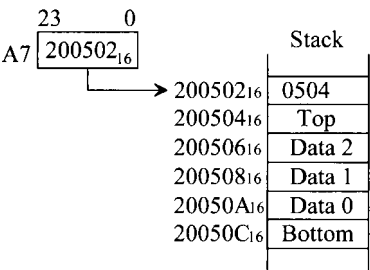
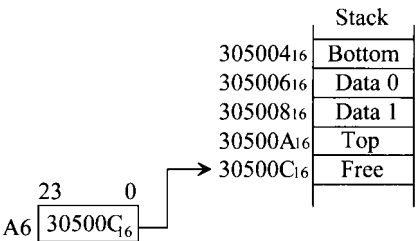
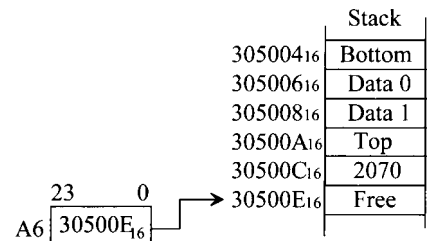

FIGURE 6.15 PUSH operation for the 68000 stack growing from HIGH to LOW memory.
FIGURE 6.16 68000 stack growing from LOW to HIGH memory.
FIGURE 6.17 PUSH operation for the 68000 stack growing from HIGH to LOW memory.
To push the 16-bit contents 0504₁₆ of memory location 305016₁₆, the instruction MOVE.W \$3050₁₆,-(A7) can be used as shown in Figure 6.15. The 16-bit data item 0504₁₆ can be popped from the stack into the low 16 bits of D0 by using MOVE.W (A7)+,D0. Register A7 will contain 200504₁₆ after the pop. Note that, in this case, the stack pointer A7 points to valid data. Next, consider the stack growing from LOW to HIGH memory addresses in which the user utilizes A6 as the stack pointer. This is depicted in Figure 6.16. To push the 16-bit contents 2070₁₆ of the low 16 bits of D5, the instruction MOVE.W D5, (A6)+ can be used as shown in Figure 6.17. The 16-bit data item 2070₁₆ can be popped from the stack into the 16-bit contents of memory location 417024₁₆ by using MOVE.W